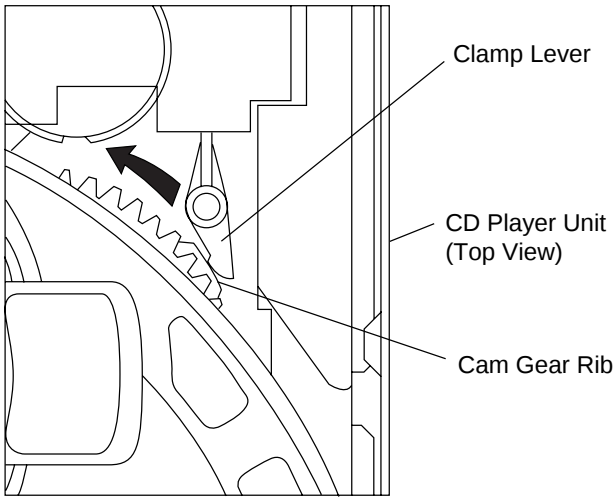

Figure 9-1
2. While holding the lock lever, rotate the cam gear anti clockwise until the cam gear rib engages with the clamp lever. (Fig. 9-1)